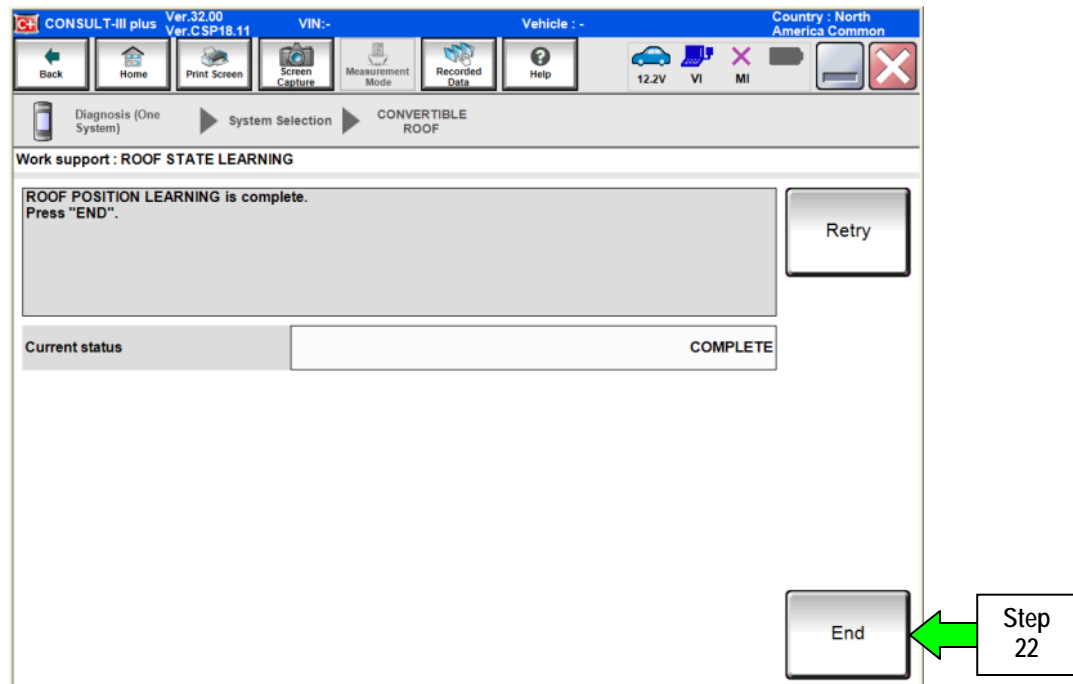

Figure 13
21. When completed, the screen in Figure 13 will appear.